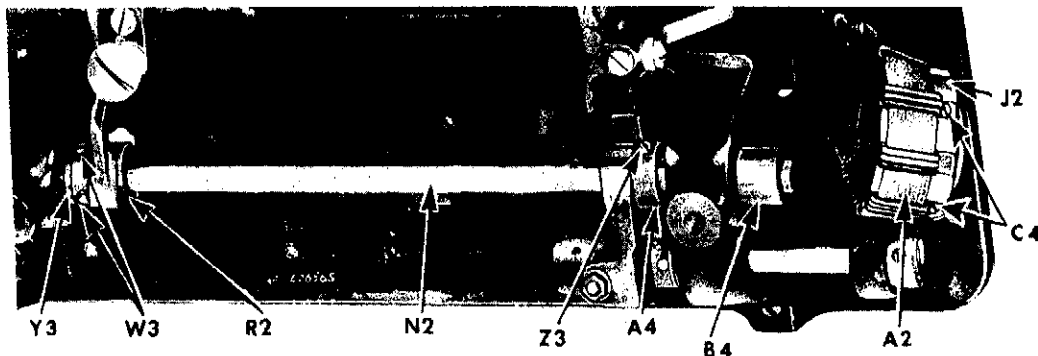

Fig. 242. Removing Sprocket and Hook Driving Shaft
2. Loosen sprocket screws **C4**, **Fig. 242**.
3. Mount feed advance eccentric with collar **A4**, **Fig. 242**. Collar must be set close to fork without rubbing against jaw of fork to avoid binding of machine from heat expansion.